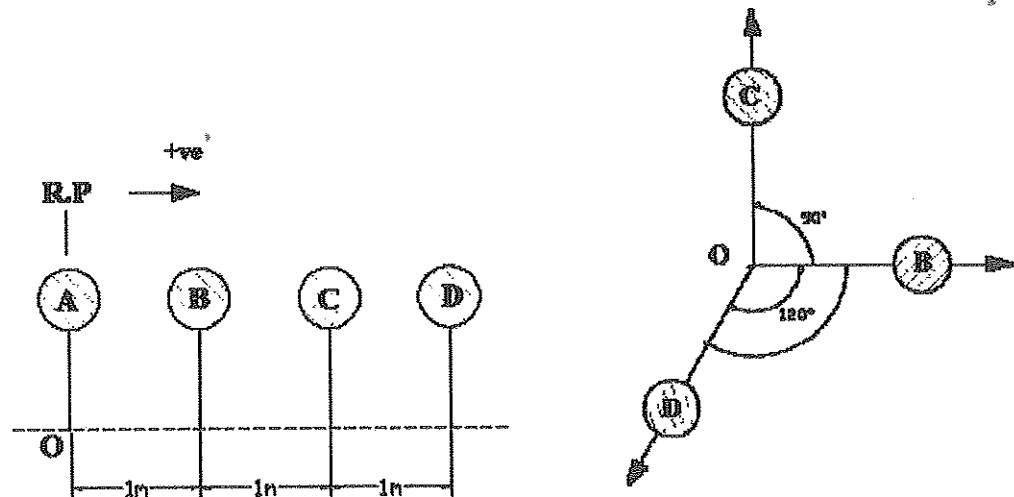

Figure 3(a) / Rajah 3(a)
- (a) A rotating shaft has four masses A, B, C and D with radius of 100 cm. The mass B is 7kg with an angle of $\text{BOC} = 90^\circ$ and $\text{BOD} = 120^\circ$ as shown in Figure 3(a). Calculate: